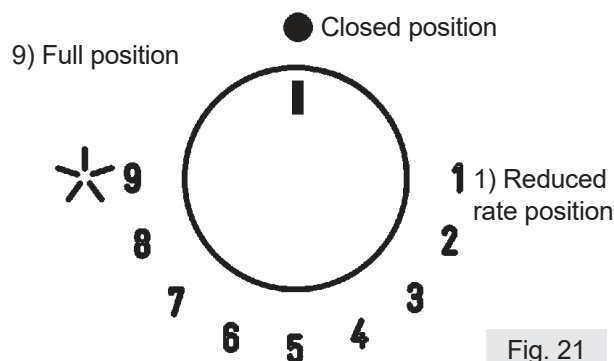

Fig. 21
Push and turn the knob corresponding to the required burner in an anticlockwise direction until it reaches the full on position of full ☆ (position 9 fig. 21), then depress the knob, the tap is equipped with a scale of 9 positions, with each click the flame is reduced until you reach the position of 1, ie the minimum supply of gas.
The knobs of burners equipped with flame failure device must be turned in an anticlockwise direction until they reach the full on position (Position 9, fig. 21) and come to a stop. Now depress the knob in question and repeat the previously indicated operations.
- When the pan comes to the boil, set the knob to the reduced rate position (Position 1, fig. 21).
device may only be ignited when the relative knob has been set to the Full on position (Position 9, fig. 21).
- witch on the burner and turn the relative knob to the "Reduced rate" position (small flame fig. 21).